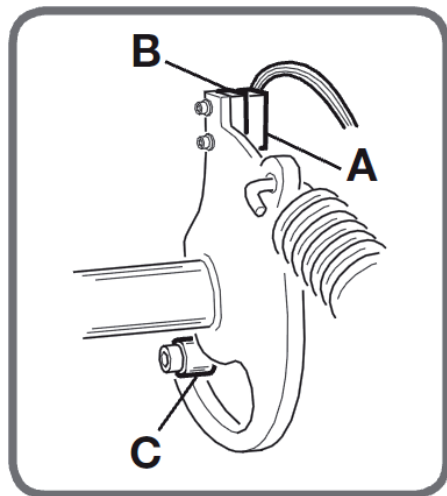

Fig. 15
- if the microswitch fitted is a magnetic REED switch (as shown in figure 15), lift the guard and remove the microswitch (A, Fig.15) and the magnet (B, Fig.15), undoing the 4 fastener screws;
- Lower the guard and check that the microswitch and the magnet are situated in front of each other (Fig. 15). If not, check that the two components are installed correctly and check if the rubber end stop (C, Fig. 15) is worn;
- With the guard still lowered, also check that there is a gap of 0.5 to 2.5mm between the microswitch and the magnet (Fig. 15). If it is less than 0.5mm, remove any washers installed on the sensor fastener. If it is greater than 2.5mm, insert washers on the sensor fastener to bring them closer together.